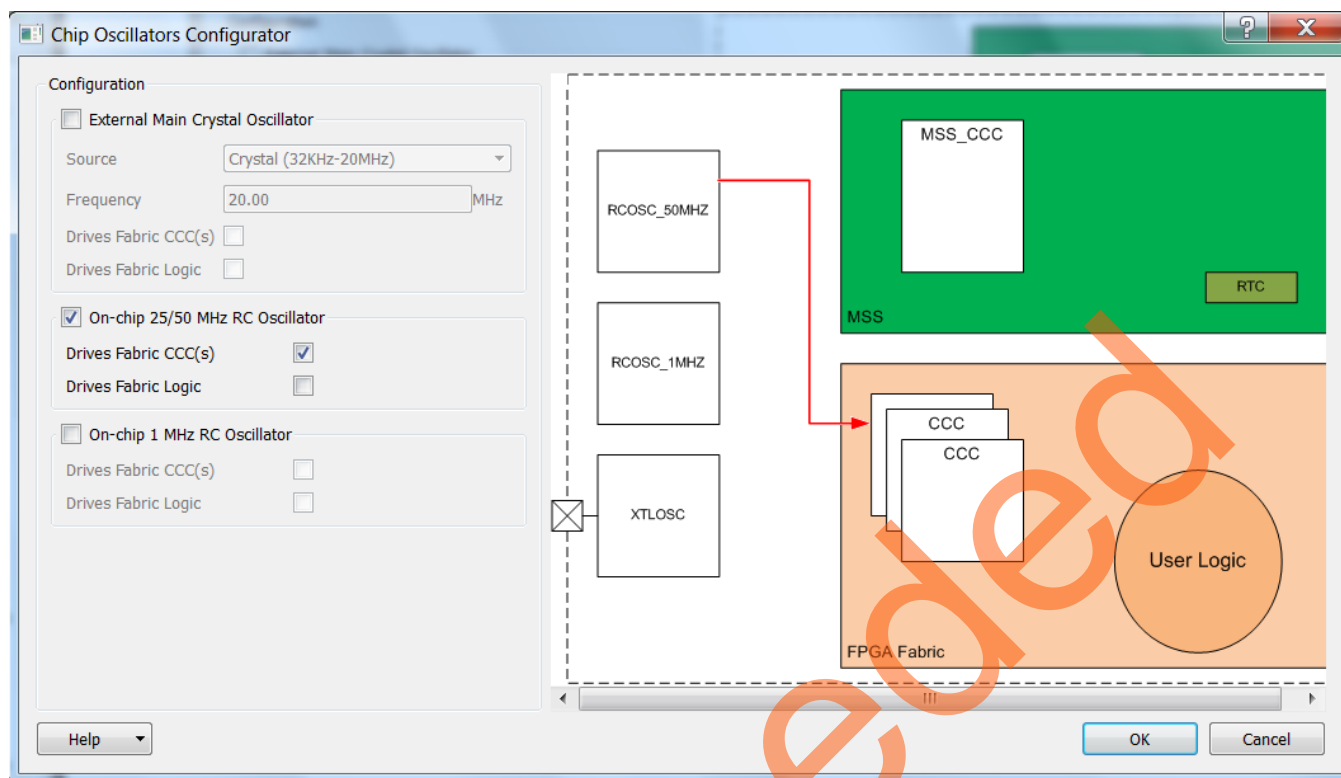

Figure 21. Oscillator Configuration
5. Drag the **Chip Oscillators** IP from the Clock & Management sub-section of the IP Catalog into the SmartDesign. Double-click the **OSC_0** instance to open up its configuration window. Select the following as shown in Figure 21: